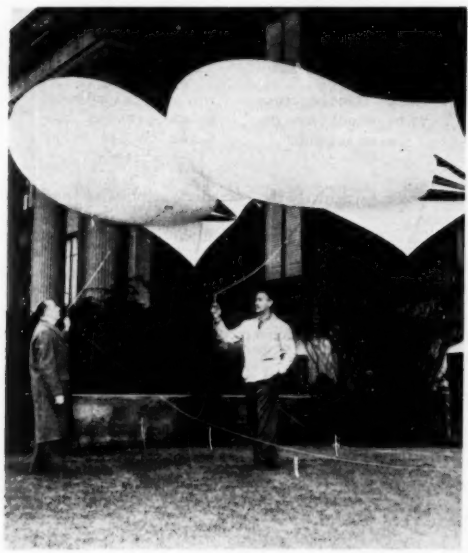

FIG. 2 KYTOONS USED AS SKYHOOKS FOR ELEVATING INSTRUMENTS TO VARIOUS ALTITUDES
Most of the meteorological measurements above ground level have been made with instruments attached to fixed structures. During the war the Armed Services developed techniques using Kytoons (kite-balloons, Fig. 2), for measuring temperature and humidity at altitudes up to 2000 ft. Work at Oak Ridge (33) has refined this technique to record continuously the temperature up to 3000 ft. These measurements are made by suspending a wiresonde or thermistor from Kytoons, Fig. 3, and bringing the electrical impulse to ground level to be measured or recorded.